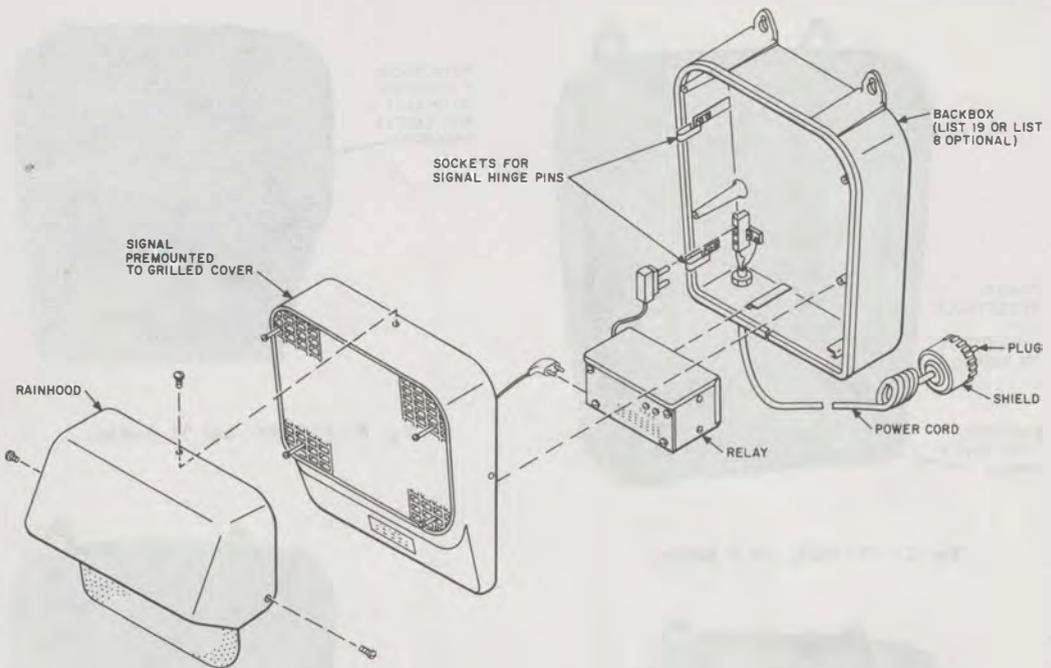

Fig. 1—Exploded View of Assembled Signal Using Relay
- (a) A typical signal (Fig. 1) includes a backbox, a signal premounted to a grilled cover, and a control relay.
3.07 Backbox, KS-16301 (Fig. 1, 2, 3, 4, and 5):
- Mount relay in the horizontal position on mounts provided in backbox (Fig. 1).
- Engage the two pins on front cover to form a hinge with the two sockets which emerge from backbox (Fig. 1)
- Fasten the signal to the backbox with four machine screws which are furnished (Fig. 1).
- Attach with furnished screws to the signal unit (Fig. 1).